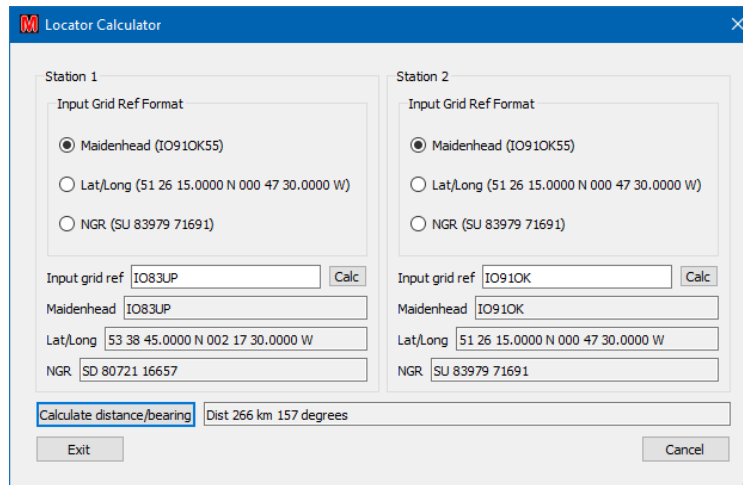

Figure 45 – Locator calculator
Depending on the option selected, you can enter a Locator, a Latitude/Longitude, or a (UK) National Grid Reference⁴⁷ into the “**Input grid ref**” box (see Figure 45) and convert between the various displays. Selecting “**Calc**” (or hitting ‘**Return**’) will then calculate and display the other two formats. If both Station details are given it also calculates the distance and bearing from Station 1 to Station 2.